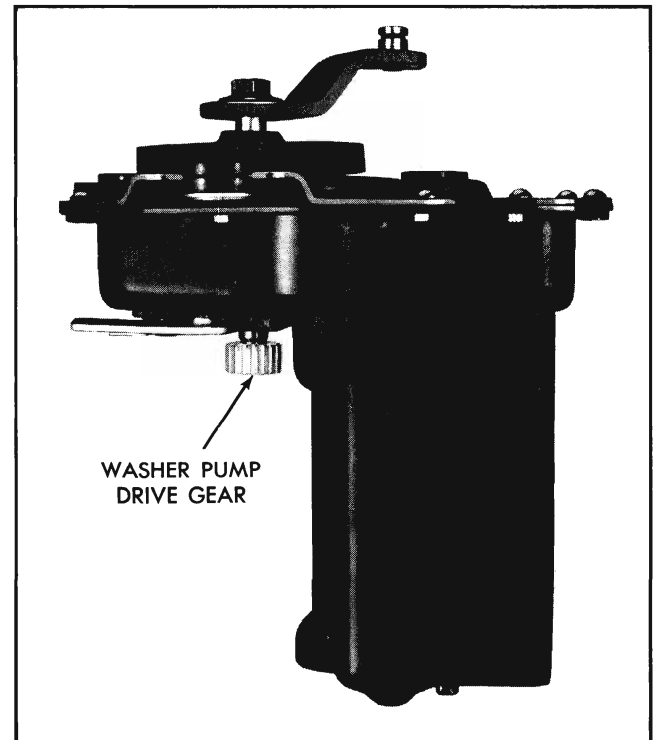

Fig. 11-86 Washer Pump Drive Gear
2. Remove sintered iron washer pump drive gear as required (Fig. 11-86). The gear is pressed on the shaft but can be wedged off by using two screwdrivers between gear and plate.